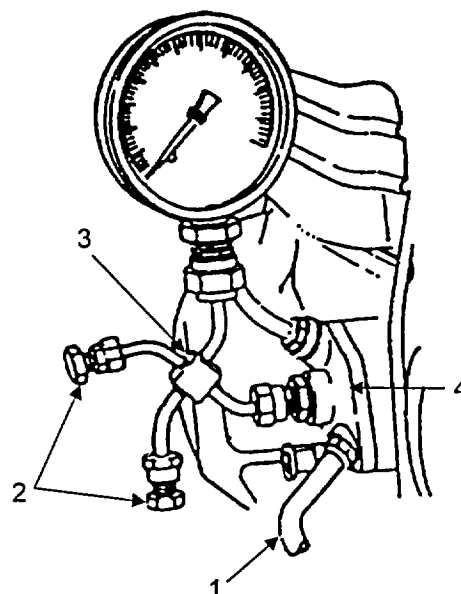

FIGURE 5-2. INJECTION PUMP TEST
- a. Connect fuel hose (Figure 5-2, Item 1) from fuel tank to injection pump (4).
- c. Connect testing device 60462800 (3) to injection pump (4). Ensure side connections (2) are tightly capped.